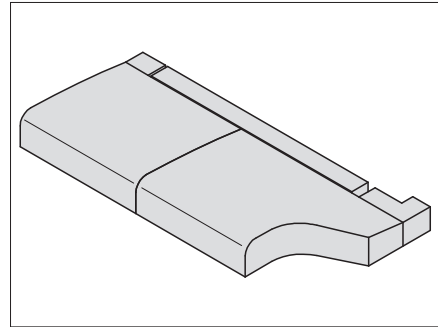
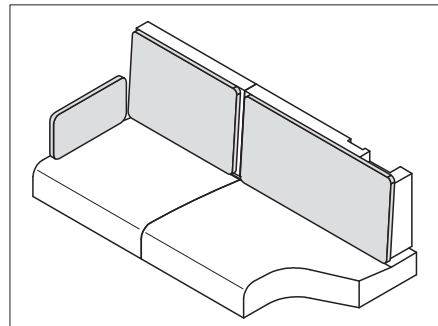

Fig. 200 Positioning seat cushions
Fig. 202 Cushion for back cushions
- Lay on the seat, backrest and additional cushions as shown in Fig. 200 to Fig. 202.